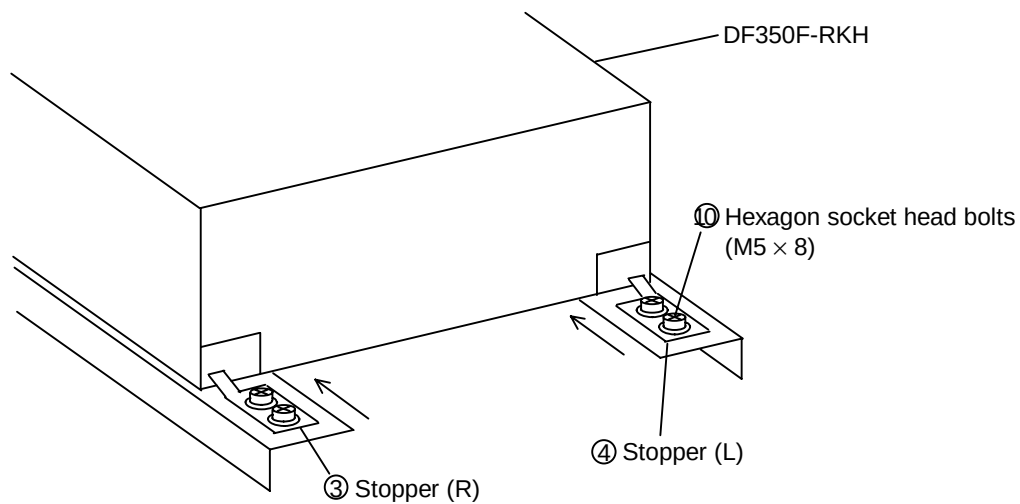

Figure 1.4.8 Securing the Rear Side of the Subsystem
1.4.7 Securing the rear side of the subsystem (See Figure 1.4.8.)